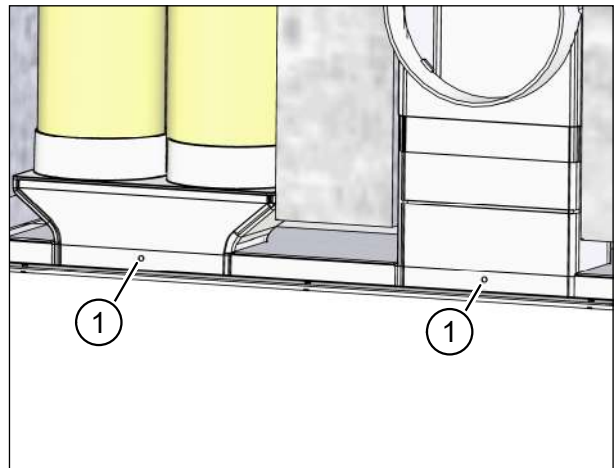

Fig. 29: Fixing the connections for flat ductwork / flexible pipe to the wall box
There are two holes (item 1 in Fig. 29) in the plastering trim for fixing the flat ductwork or flexible pipe connections to the wall box with blind rivets. These holes will also need to be drilled in the flat ductwork or flexible pipe connections.
- ▶ Use the 3 mm drill bit to drill through the holes in the plastering trim (item 1 in Fig. 29) and into the flat ductwork or flexible pipe connections.